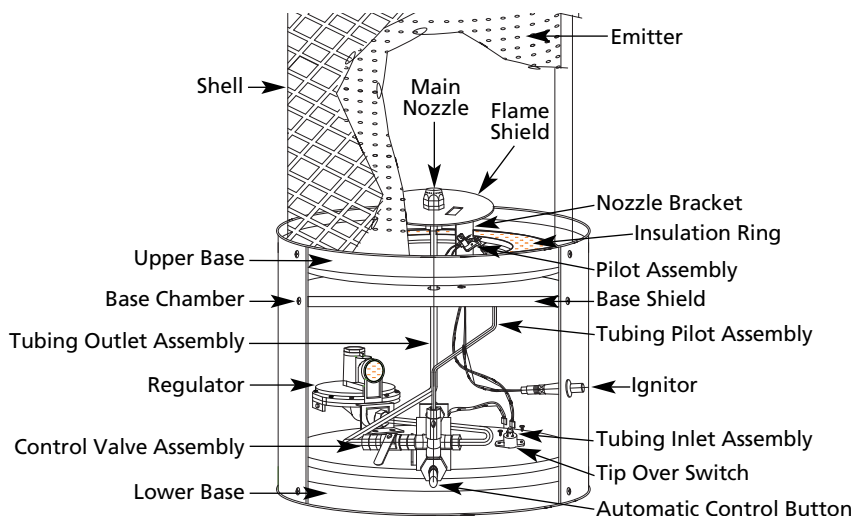

Figure 4 – RA250NGDGD Part Identification
4. Push in and hold the automatic control button (see Figure 4). Push ignitor button (see Figure 4). You may need to repeat pushing the ignitor button several times before the pilot will light.